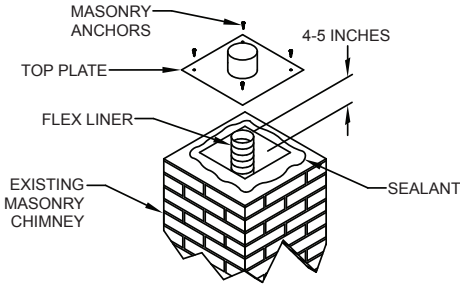

Figure 13
Step 1. When terminating your Flex installation, ensure the Flex protrudes 4-5 inches over the top of the masonry chimney (Figure 13). If necessary, trim the base of the Top Plate to fit the masonry chimney.
Step 2. Slide the Top Plate over the Flex and seal the Top Plate to the masonry chimney using a bead of non-hardening sealant around the top of the chimney to prevent moisture intrusion (Figure 13).